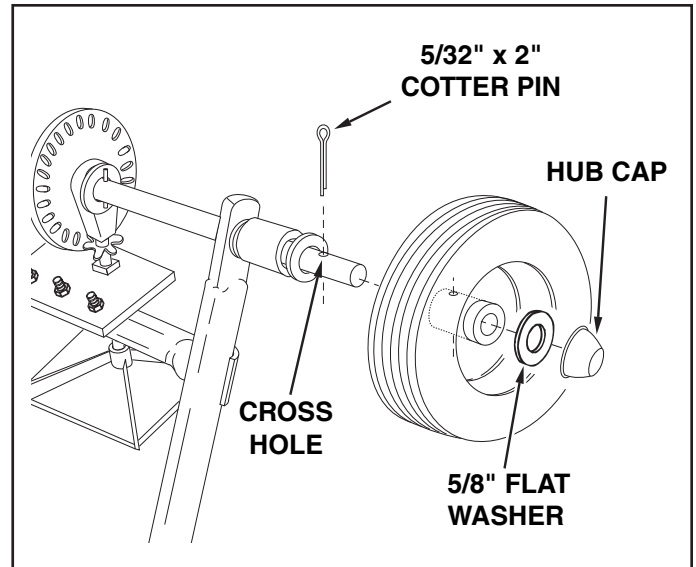

FIGURE 3
5. Place a wheel onto the end of the axle that has a cross hole. The long end of the hub goes to the inside. See figure 3.
6. Assemble a 5/32" x 2" cotter pin through the hole in the wheel hub and the axle. See figure 3.
7. Place a 5/8" flat washer onto the axle and then lightly tap a hub cap onto the axle until it is snug against the washer and wheel hub. See figure 3.